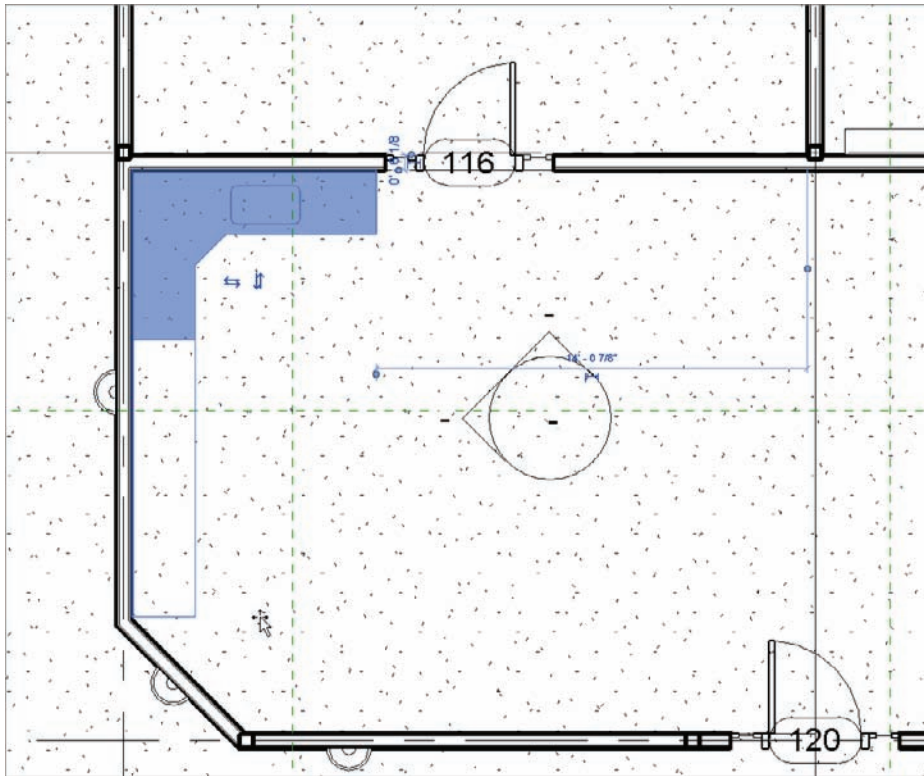

FIGURE 9.57 Lengthening the counter leg to meet the corner of the wall
11. Select the stretch arrows and stretch the leg of the counter to the end of the wall, as shown in Figure 9.57.